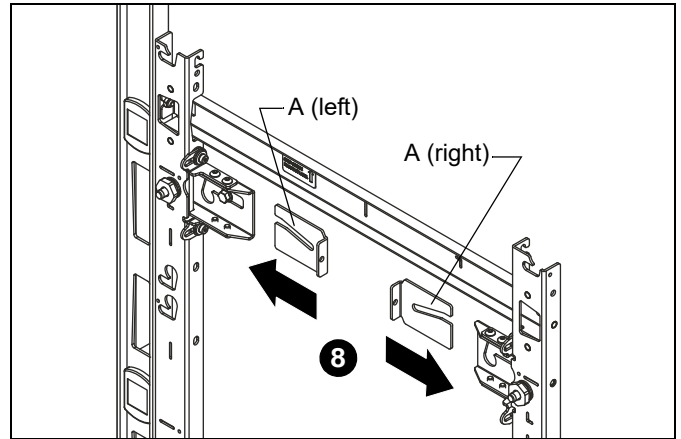

Figure 9
- Slide the left (A-Left) and right (A-Right) adjustment washers into place behind the partially installed lag screws. (See Figure 9)